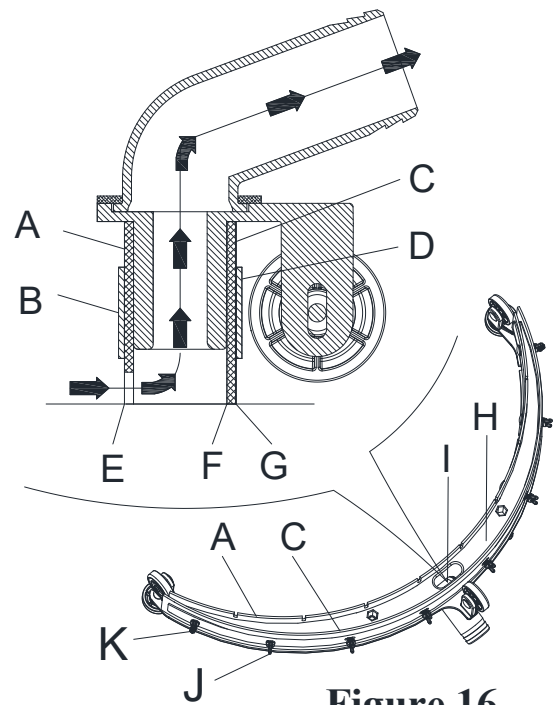

Figure 16
2. Check that the edges (E, Figure 16) of the front blade (A) and the edges (F) of the rear blade (C) lay down on the same level, along their length; if necessary adjust their height according to the following procedure:
- Loosen the all wing nuts (J) and adjust the front blade (A) and rear blade (C), then tighten the all wing nuts.
3. Check the front blade (A) and rear blade (C) for wear, cuts and tears; if necessary replace them according to the following procedure. Check that the front corner (E) or the rear corner (F) is not worn; if necessary, overturn the blade to replace the worn corner with an integral one. If the other corners are worn too, replace the blade according to the following procedure:
- Remove the all wing nuts (J) and the screw (K), remove the retaining strip (B), then replace/overturn the front blade (A). Assemble the blade in the reverse order of disassembly.
- Remove the all wing nuts (J) and the screw (K), remove the retaining strip (D), then replace/overturn the rear blade (C). Assemble the blade in the reverse order of disassembly. After the blade replacement (or overturning), assemble the squeegee as shown in the previous step.